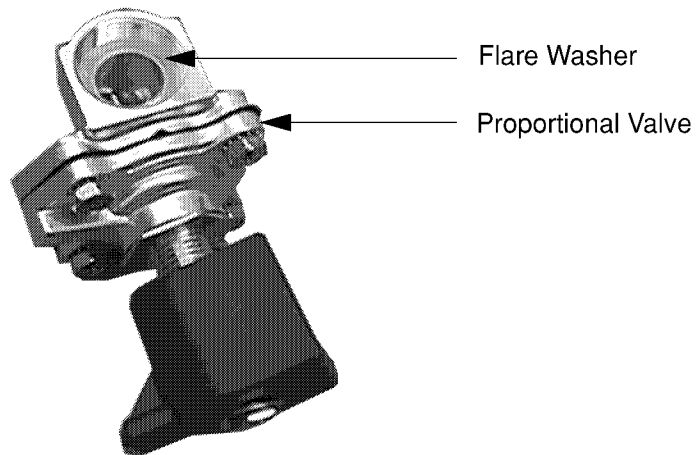

Figure 2-7 Proportional Valve Washer
6. Install the flare washers PN 129762 into both sides of the new proportional valves from the kit PN 2-301142. See Figure 2-7.